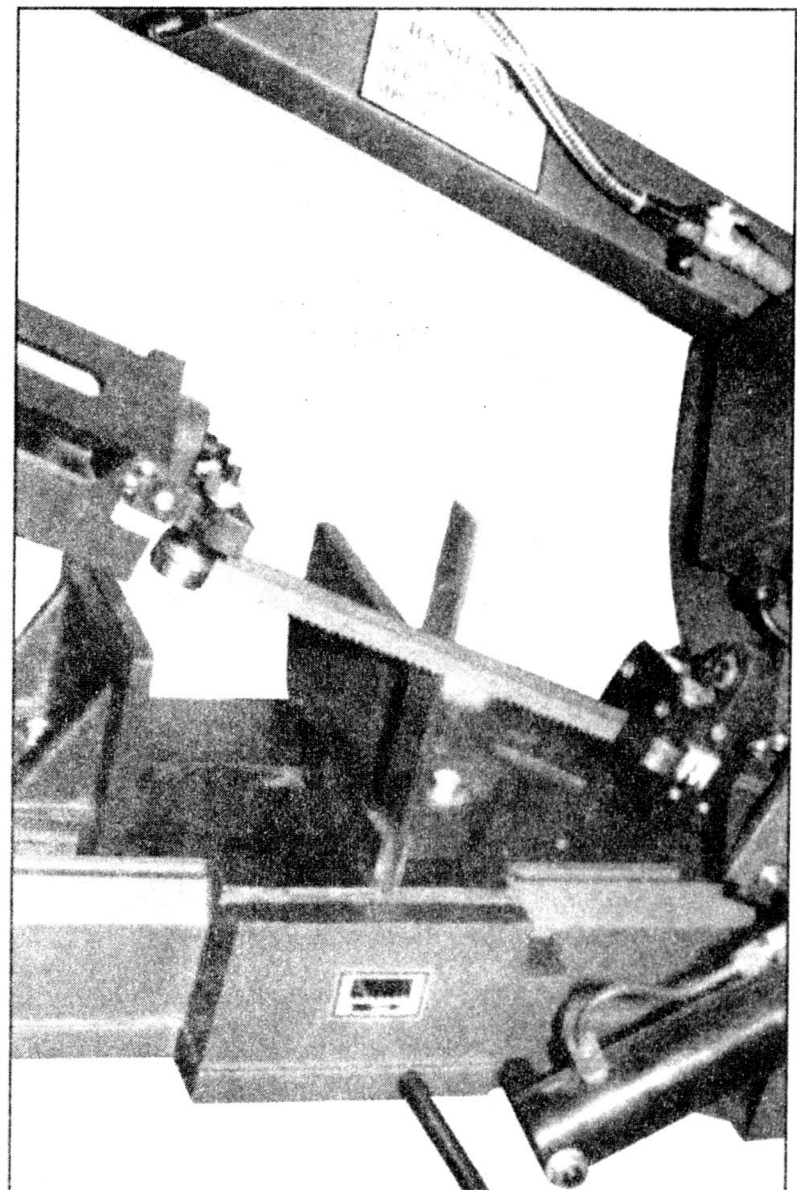

Fig.11
2. Place machinist's square on table next blade as pictured in Fig. 11.
5. Tighten bolts (A).